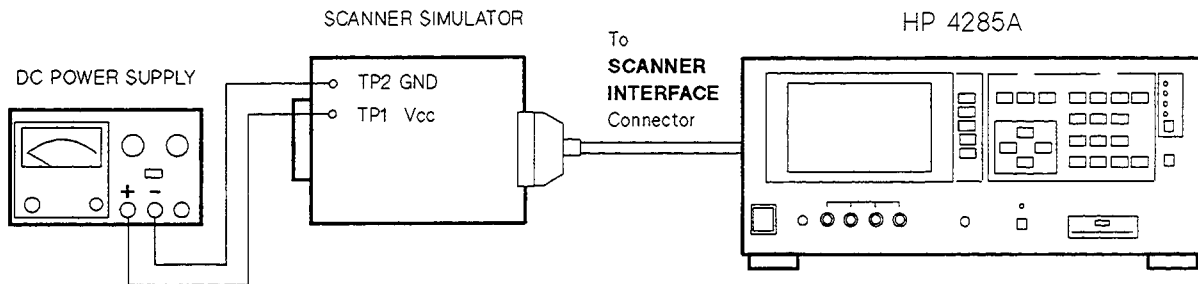

Figure 1-28. Scanner Simulator Connections
6. Set the DC power supply output voltage to +5 V. Connect TP2(GND) on the bias interface simulator to '-' terminal of the power supply. Then connect TP1(Vcc) on the simulator to the '+' terminal of the power supply, refer to Figure 1-28.
7. Connect a cable from the scanner simulator to the scanner interface connector on the HP 4285A's rear panel as shown in Figure 1-28.